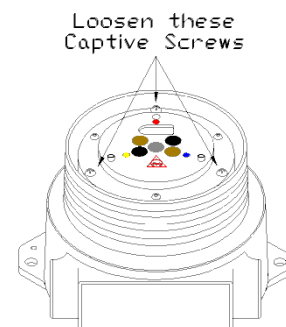

Figure 2-8
6. Loosen the three captive screws on the Detector Module “puck” (see Figure 2-8).